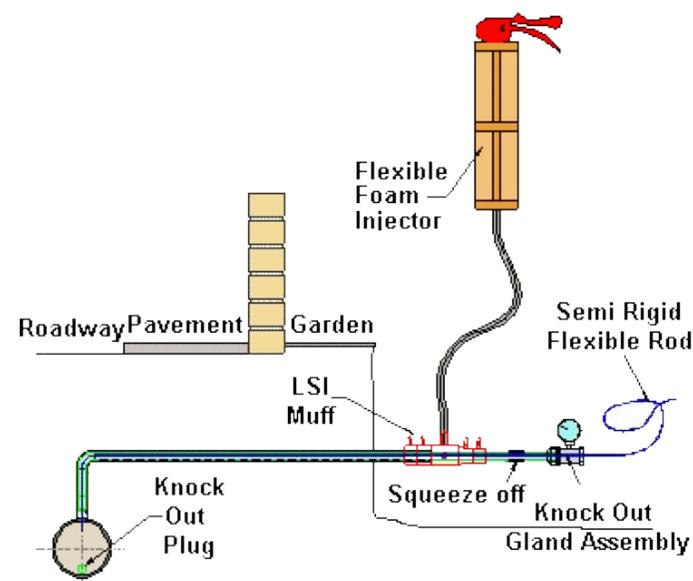

Figure 50 - Foam off inserted service
50. Fill annulus between PE pipe and carrier pipe in accordance with manufacturer's instructions. (Figure 50).